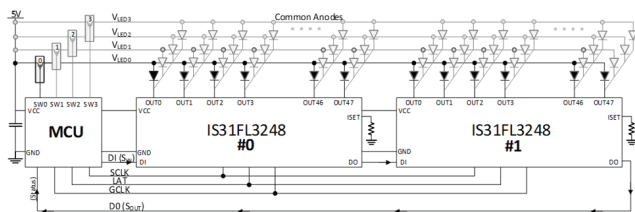
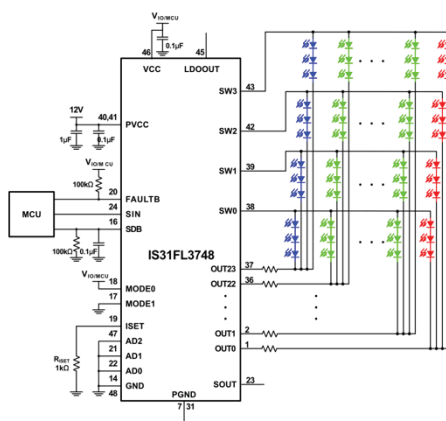
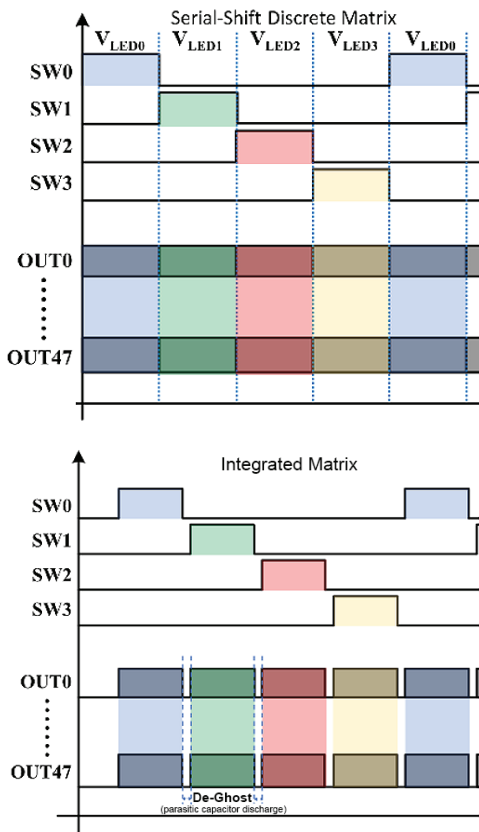

Figure 2. 4x96 Matrix Array Using 4 FETs and Two IS31FL3248 Devices
Figure 3. IS31FL3748 Fully Integrated Matrix LED Driver circuit
Figure 4 Matrix Scan Timing Differences [see Figure 2]
An added benefit of using serial interface LED drivers is they can be used to create matrix LED drivers that help reduce PCB size and BOM costs in designs that use many LEDs. The serial IN and serial OUT interface enables the use of less expensive microcontrollers for cascading multiple IS31FL3248s as shown in the Figure 2 below. The serial OUT at the end of the cascade can be routed to the microcontroller as a status input to verify data transfer integrity. The external FETs on SW0~1 are turned ON/OFF in a sequential pattern [Figure 4] and at a fast rate so flicker is not visible as one VLEDx row turns OFF and the next VLEDx row turns ON. The LED's common anodes are tied together to their respective horizontal VLEDx line. This arrangement means current is supplied from only one VLEDx at a time.
**Low I2R thermal** - A matrix design as shown in Figure 2. uses external FETs while an integrated solution as in Figure 3 has the FETs as part of the silicon die. Having the FETs designed on the die limits the FET switch performance due to substrate design parameters. Using external FETs expands the options when selecting a FET; it is possible to purchase FETs with extremely low drain-source ON resistance (RDS(ON)); not possible if the FETs are integrated. A low RDS(ON) means lower I2R thermal dissipation.
**Lower BOM Cost** - As shown in Figure 2, it is possible to design a large matrix array using two or more cascading IS31FL3248 devices while using only one set of FET switches and one MCU. A single IS31FL3248 device supports 48 LED channels while the IS31FL3748 supports only half; 24 channels
**Parasitic Capacitance** - LED arrays tend to display a 'ghosting' effect where stray parasitic capacitance in the array will discharge through a random LED causing it to dimly turn on. Lumissil's integrated matrix drivers are designed with 'De-Ghosting' technology to actively discharge stray capacitance and avoid this. An integrated matrix device will include parasitic discharge [and other enhancements] during the scan timing, something that is difficult to implement with a discrete design, Figure 4. An integrated matrix driver solution has other performance features such as clock spread spectrum, LED open/short detection, etc, not possible in a discrete solution.